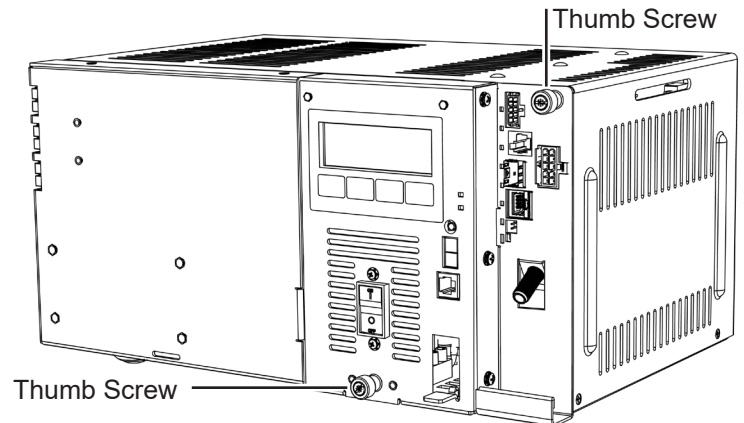

Fig. 2-14, Inverter Module Screw Locations
1. To access Output Voltage Terminal, remove the Inverter Module by removing the screw securing the module (see Fig. 2-14, next page).
1. Loosen the thumb screws securing the Inverter Module and Communications Module (see Fig. 2-14). Pull out the Inverter Module.